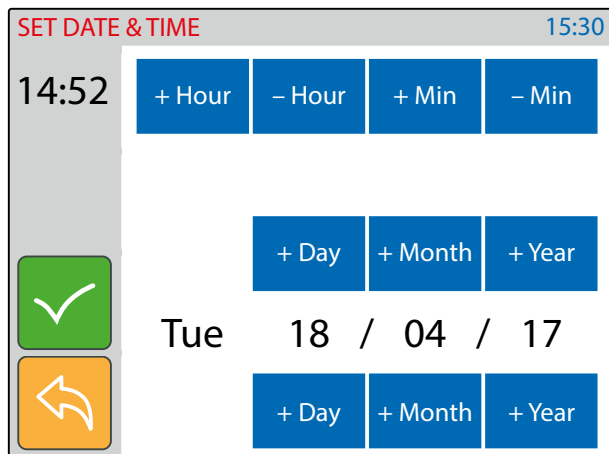

Fig. 13 Set the date & time
- The current date & time is shown (Fig. 13).